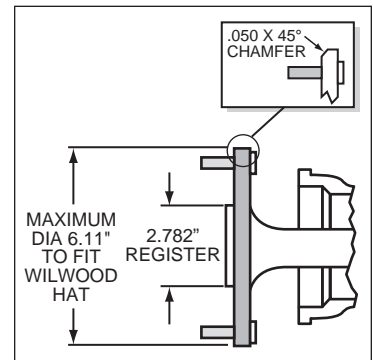

Figure 3. Axle Flange Maximum Dimension
- Maximum axle flange diameter must be no larger than 6.11" w/.050" x 45° chamfer (see Figure 3).